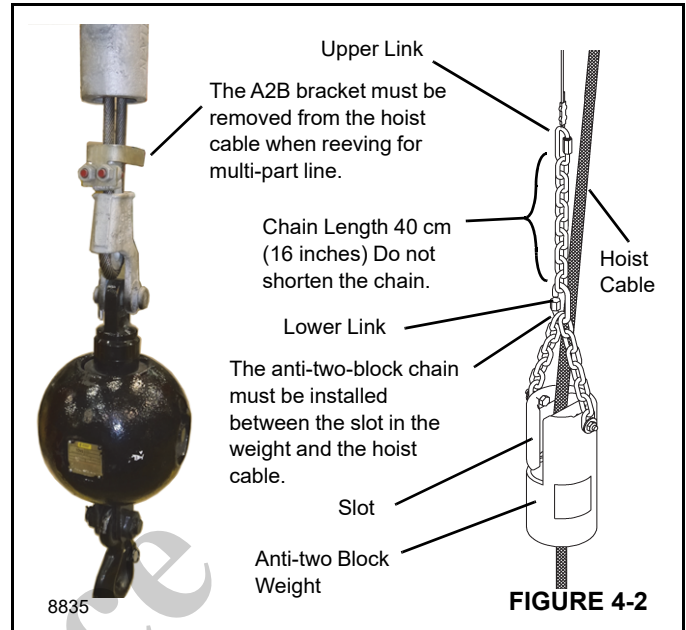

FIGURE 4-2
16. Remove anti-two-block switch and weight/chain assembly and install on jib tip, see Figure 4-2. Be certain to use keeper provided with switch.
5. Disconnect anti-two-block wire connector at rear of the jib extension. Re-connect anti-two-block switch connector on boom tip. Move weight/chain assembly to boom tip see Figure 4-2.
To prevent the hoist cable from slipping out of the ant-two-block weight, rig the weight as shown in Figure 4-2.
The A2B bracket is for single part line use only. Remove the A2B bracket shown in Figure 4-2 from the hoist cable when changing from a single part line to a multiple part line to allow the hoist cable and wedge socket to reeve through the sheaves on the boom nose and the hookblock. Re-install the clamp and nuts to the cable before performing a lift.